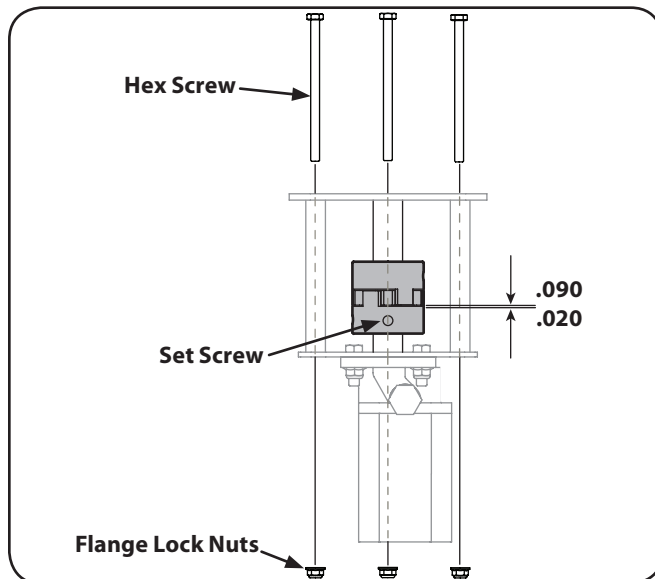

Figure 7-1
2. Remove the three flange lock nuts and hex screws that secure the pump to the coupling shield. Two flange lock nuts and hex screws are at the bottom corners and one is in the top center. See Figure 7-1.
11. Set .020" to .090" of a clearance/gap between the nylon "spider" and the engine coupling half by sliding a feeler gauge between the nylon "spider" and the engine coupling half and moving the pump coupling half as needed. Install the set screw and torque to 78 in-lbs to secure the pump coupling half. See Figure 7-1.